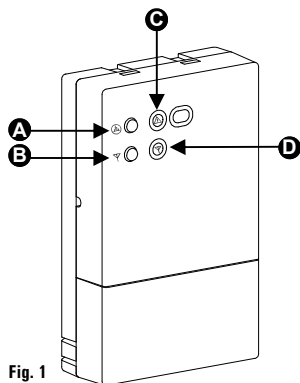

Fig. 1
LED (C) e (D) in Fig. 1)
### PULSANTE TEST "⊕" (A in Fig. 1)
### PULSANTE AUTO-APPRENDIMENTO "∇" (E in Fig. 1)